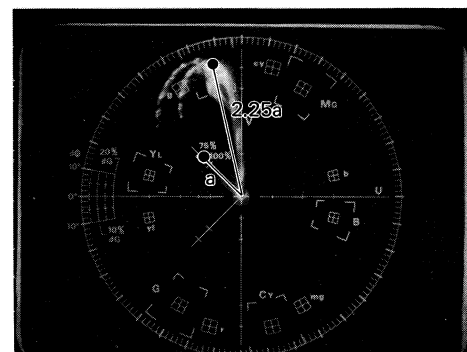

Fig. 4-2-57
- Adjust CHROMA CLIP VR20 so that the red vector clips at $225\% \pm 10\%$ as compares to the burst signal on the vectorscope. (Fig.4-2-57)